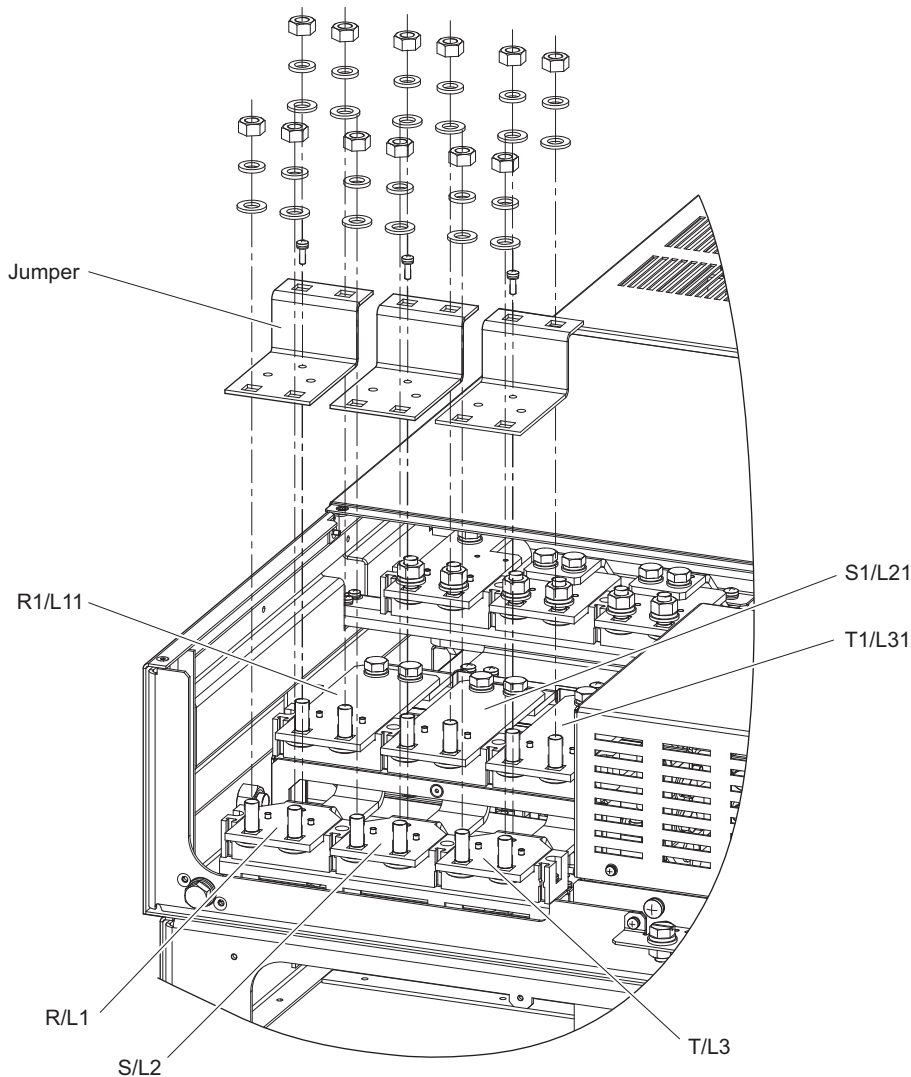

Figure 3.2 Removing the Jumper
- Remove M5 screws and then jumpers to operate with 12-phase rectification as shown in Figure 3.2.